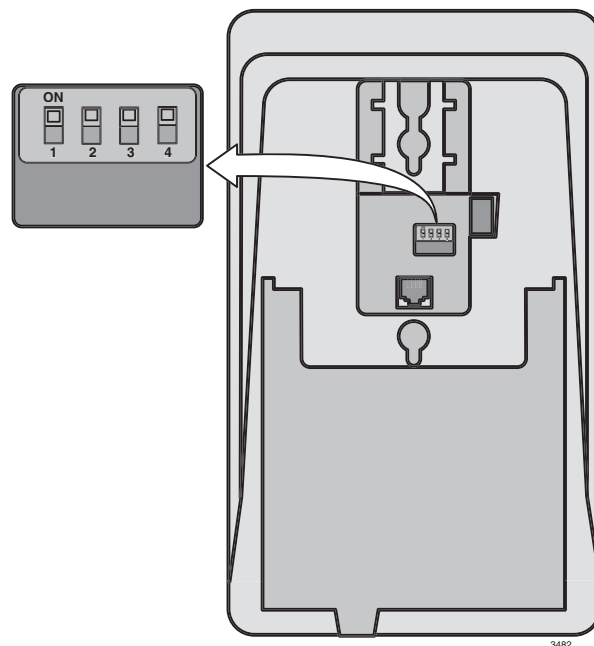

Figure 11-42 DKT2001 DIP Switch Settings
1. Set the DIP switches to match Figure 11-42. The DIP switches are preset from the factory for the USA and Canada. Refer to Table 11-10 on page 11-52 for other country settings.